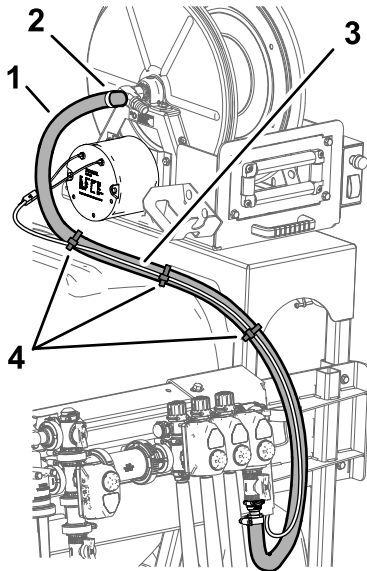

Figure 39
5. Connect the hose 180 cm (71 inches) to the barbed-hose fitting on the hose reel assembly and secure the hose to the fitting with a hose clamp as shown in Figure 39.
6. Secure the wire harness for the pivoting hose-reel kit to the supply hose for the reel using 3 cable ties (Figure 39).